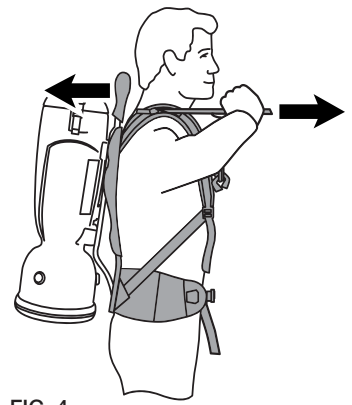

FIG. 4
4. Fold the bottom 2" of the HEPA bag up and hold into place. (Fig. 4)
6. Loosen or tighten the stabilizer straps as needed, to fit your back. (Fig. 4)